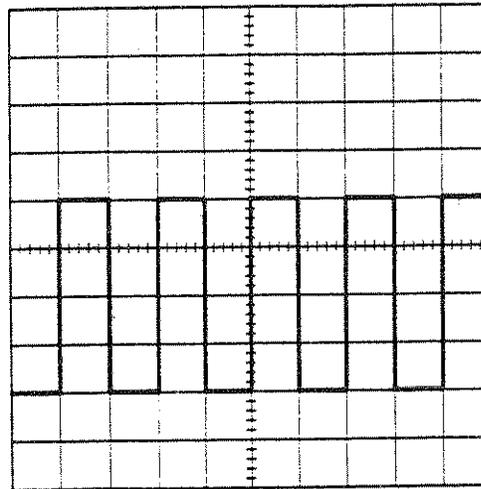

Figure 3-8. Preliminary Check Waveform
9. Verify that the waveform on the display appears like the one in Figure 3-8. If the waveform does appear the same, most of the main functions of the instrument are working. Go directly to paragraph 3-41 Display Check.
10. If the waveform differs from that shown in Figure 3-8, use the information in Table 3-12 to help identify which of the main functions are not working correctly.
Difference in Waveform from Figure 3-8.	Possible Defective Functions